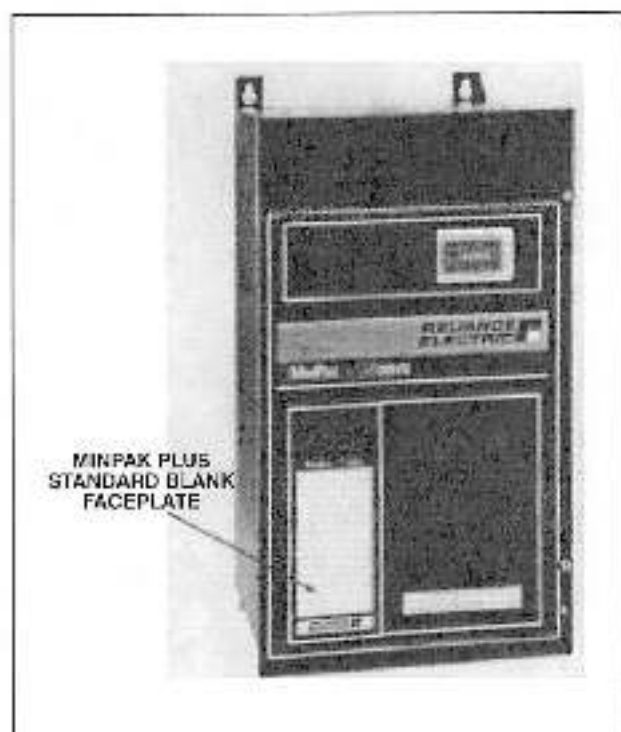
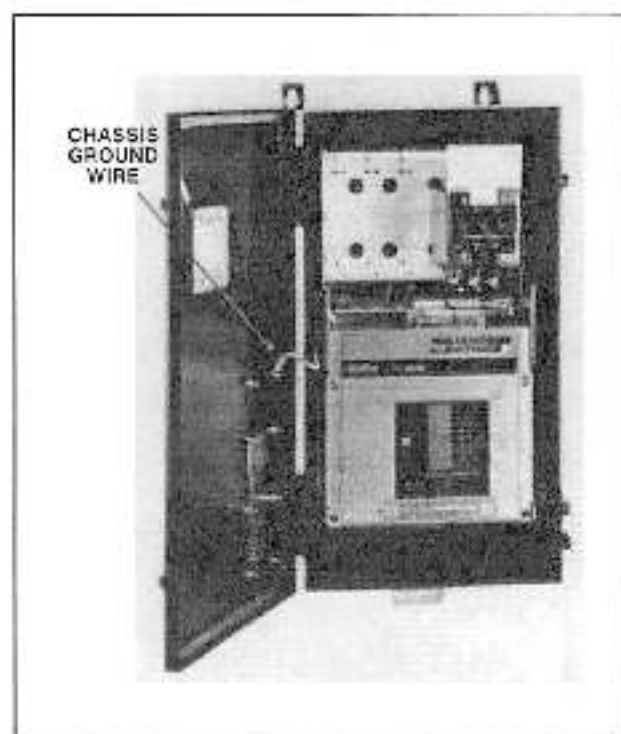

Figure 2 – Three Phase MinPak Plus With Standard Blank Faceplate
Figure 3 – Three Phase MinPak Plus With Chassis Ground Wire Mounted to Local Operators Control Cabinet Door Faceplate
1. Remove Standard Blank Faceplate from cabinet door by removing the 8 hex nuts and washers. (Refer to Figure 2). **NOTE: The Controller ground wire (green) is attached to upper hex not to ground cabinet door. This must be returned and re-mounted to this location when Local Control Station is installed. (Refer to Figure 3).**
7. Attach and tighten all 8 hex nuts until the Faceplate bottoms out on the stops built into the Cover. Use an alternating pattern when tightening, but tighten all nuts evenly. Attach the ground (green) wire to the Faceplate with the standard nut provided. (Refer to Figure 3).